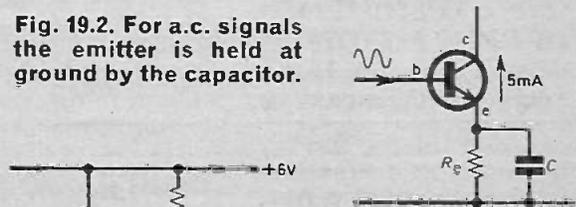

Fig. 19.2. For a.c. signals the emitter is held at ground by the capacitor.
- (b) The emitter of Fig. 19.2 is 5 volts positive to ground as far as d.c. is concerned but is at signal ground due to the capacitor.